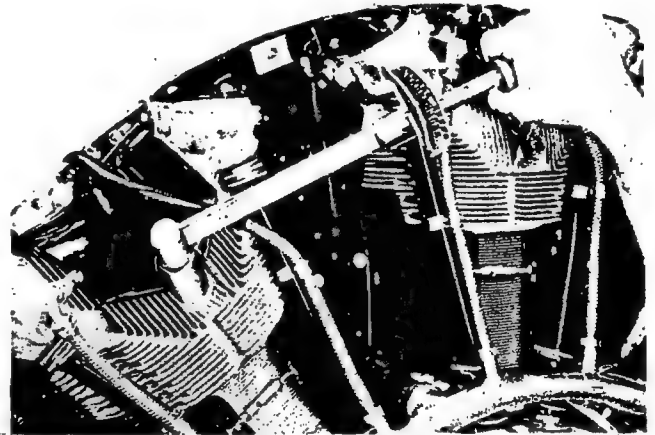

Figure 54—Installing Spark Plug
(13) Copper gaskets or thermocouples which conform to the thickness specified in paragraph 2 of this section are installed under the shell of each plug. Install and tighten the spark plugs to the proper torque value with wrench (Tool No. 84458 for plugs having a 7/8 inch hex. nut, and wrench, Tool No. 84457, for plugs with a 1 inch hex. nut). See figure 54.